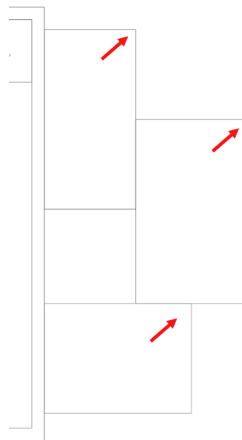

Figure 14.11: The selected compared objects now in the current drawing and common to both drawings (grey)
4. Press *Enter* to confirm the selection. The selected objects will go from *red* (not in the current drawing) to *grey*, indicating they are common to both compared drawings. This is shown in *Figure 14.11*.